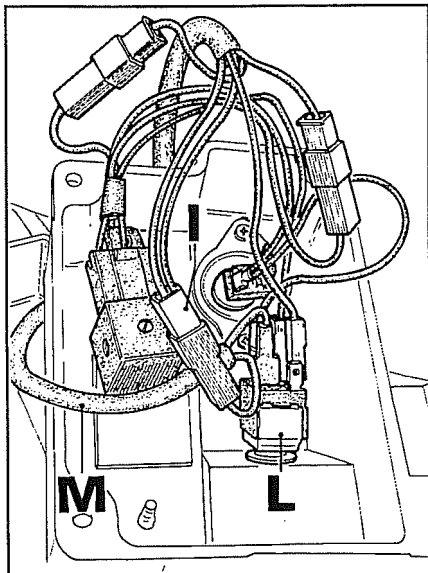

Fig. 38
5. Connect cable **M** Fig.38. To do this, disconnect the double brown wire with black dots **I** from the raise/lower control **L** and the other cable to double cable **I**.